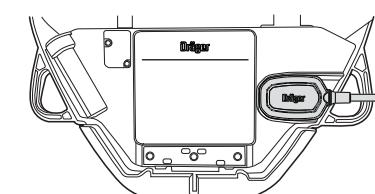

Fig. 43 Connecting a clip charger
- Connect the clip connector to the charging port (Fig. 43).